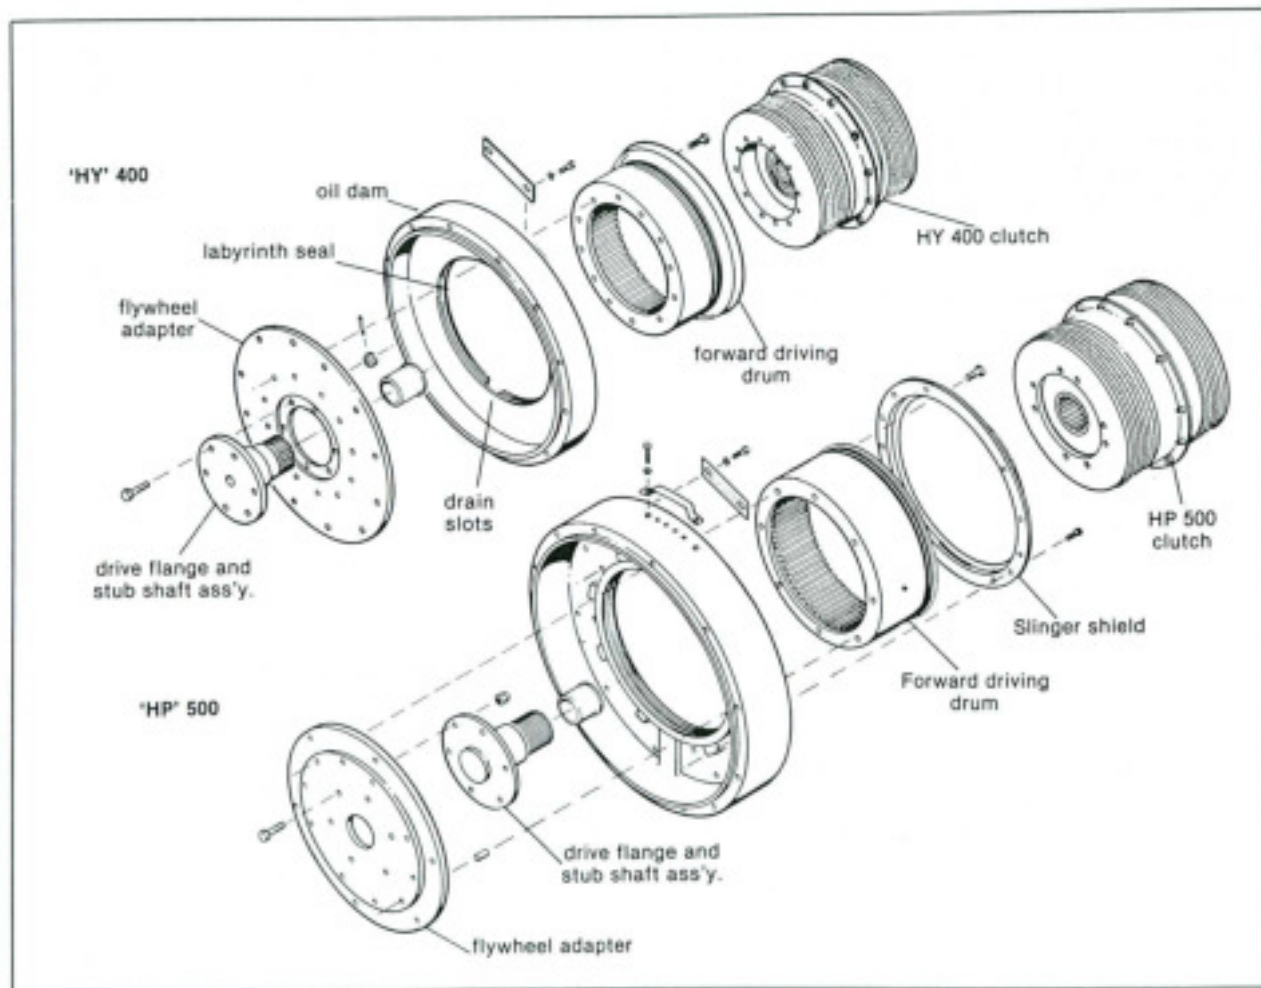

Fig. 33. Adapter Group and Clutch
2. Remove oil dam and inspect labyrinth oil seal on inside diameter. Repair or replace as necessary (wear or damage to seal indicates misalignment- check further!) (See fig. 33).